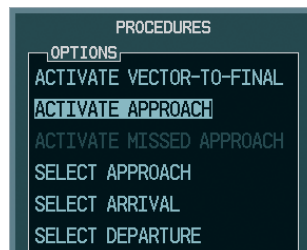

Figure 5-147 Manually Activate Approach
- Turn the large **FMS** Knob to highlight 'ACTIVATE APPROACH' as shown in Figure 5-147.